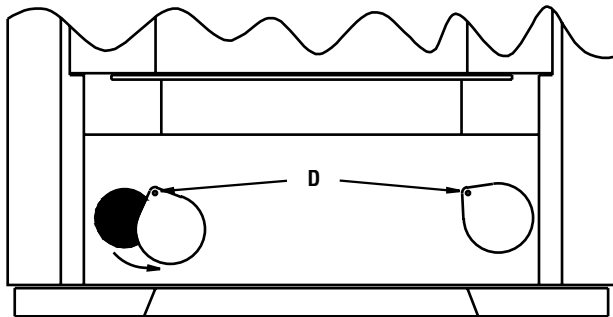

Figure 46B
8. Rotate the covers off to the side to access the flue passage way cavity (see D in **Figure 46B**). Using an ash vac, clean out all ash build-up.